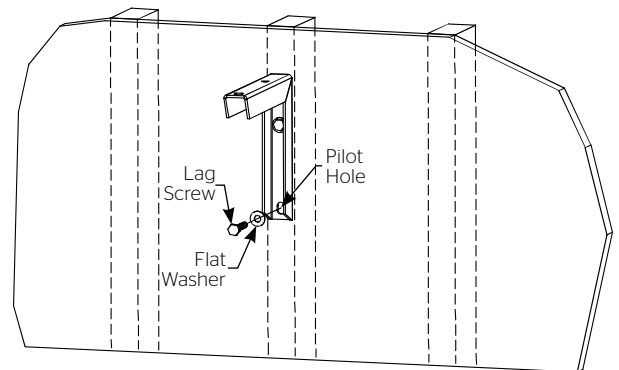

Figure 3
9. Using one 1/4" x 1-1/2" lag bolt (not provided) and 1/4" flat washer (not provided) fasten through bottom hole of bracket (See Figure 3)